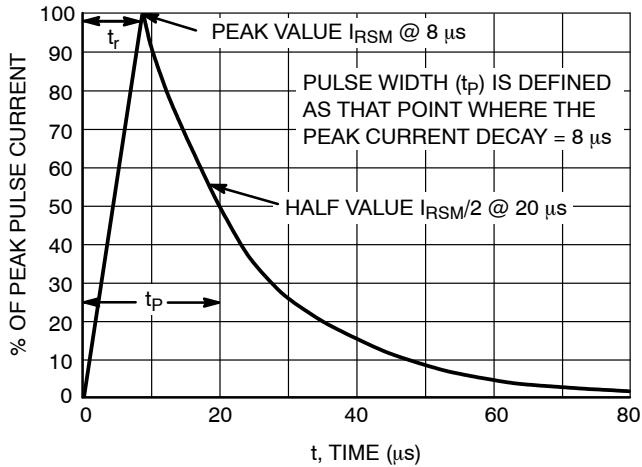

Figure 3. $8 \times 20 \mu$ s Pulse Waveform
1. Non-repetitive current pulse per Figure 3
4. 8 x 20 μ s pulse waveform per Figure 3